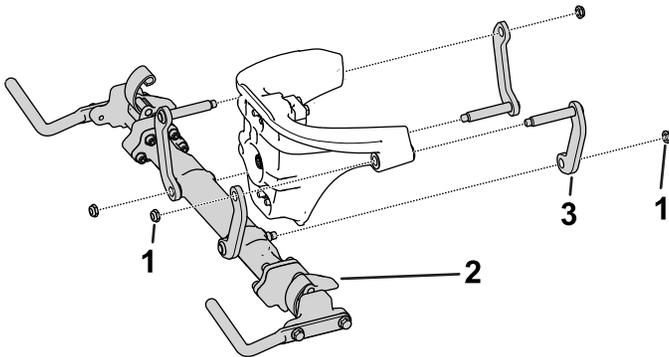

Figure 2
- Remove the crossarm assembly by loosening and removing the nuts that secure the link assembly arms to the steering head (Figure 2).
- Install the crossarm assembly to the steering head (Figure 2).